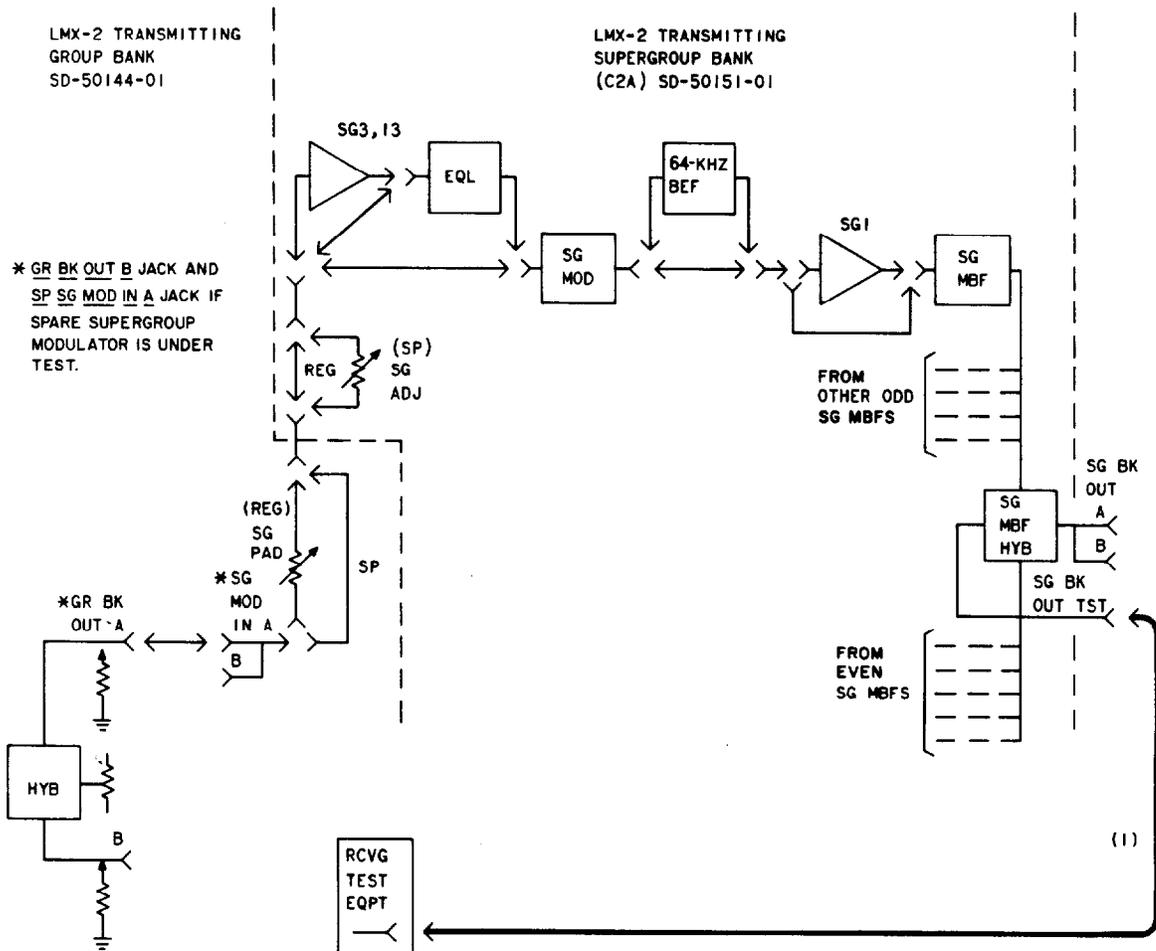

Fig. 4—Supergroup Modulator In-Service Loss Test
- 2 Connect the RTE to the SG BK OUT TST jack of the regular or spare supergroup being tested [patch (1), Fig. 4].
2	Connect the RTE to the SG BK OUT TST or DSG BK OUT TST jack of the regular or spare supergroup bank being tested [patch (1), Fig. 4 or 7]. Caution: Connect the patch cord to the test equipment before making the connection to the DSG or SG BK OUT TST jack.
6	Remove patch (1), Fig. 4 or 7.